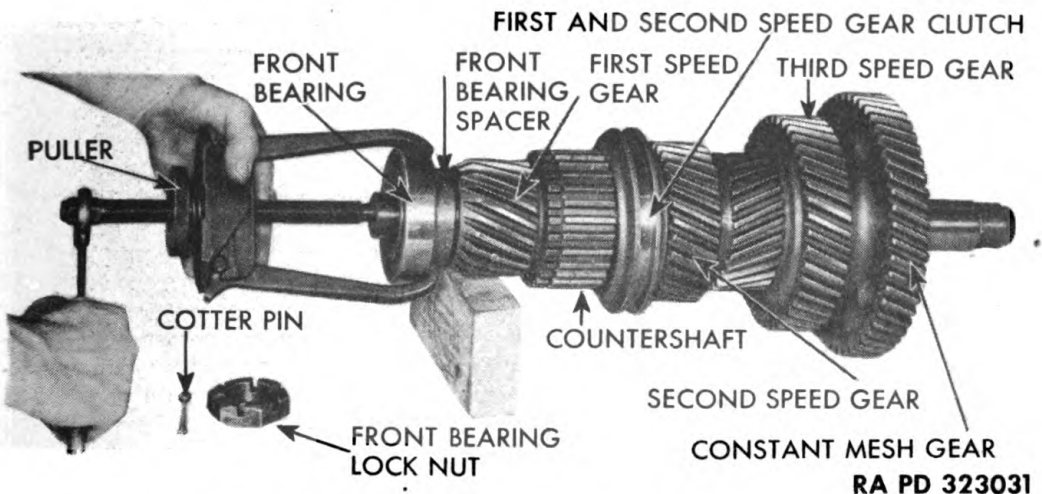

Figure 30 — Removing Front Countershaft Bearing, Using Puller (41-P-2911)
g. Disassemble Countershaft. Remove cotter pin and front bearing lock nut. Pull front bearing from shaft with puller (41-P-2911) (fig. 30). Slide the gears, spacers, and clutch off shaft. Without removing front bearing, slide constant mesh, third and second speed gears, and gear clutch off shaft.
remove lock nut. With a puller, remove reverse shaft front bearing the same way as shown for removing countershaft bearing in figure 30. Slide the gears, pinions, and spacers off shaft (fig. 64).